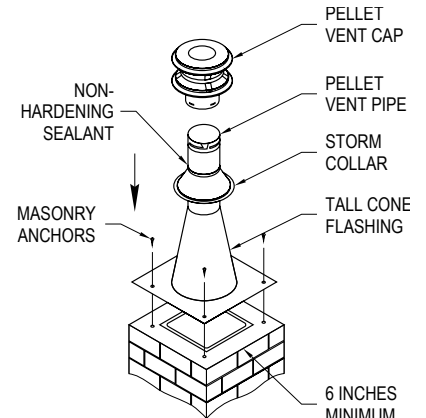

Figure 13
11. For the termination of the pellet vent, you will use a Tall Cone Flashing, and a Storm Collar. This will require 14 inches of pipe above the top of the masonry chimney. Pull the pipe up through the flashing to the desired height. Mark where the Storm Collar will go. Slip the Storm Collar down over the pipe, and affix it to the pipe with a 1/4"-long stainless steel sheet metal screw (**Figures 13 & 14**). The Storm Collar will then support the entire vent system. Install the Cap. Seal the joint at the Storm Collar, and any other joints or seams which may appear suspect.